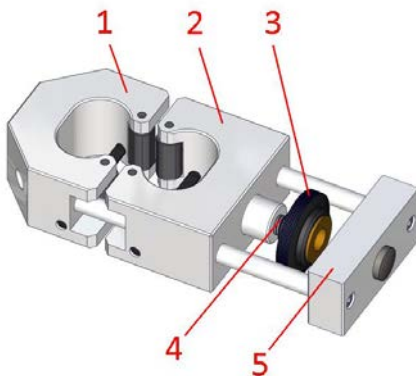
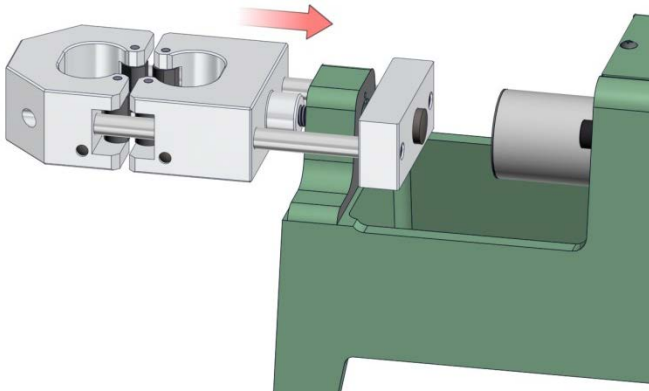
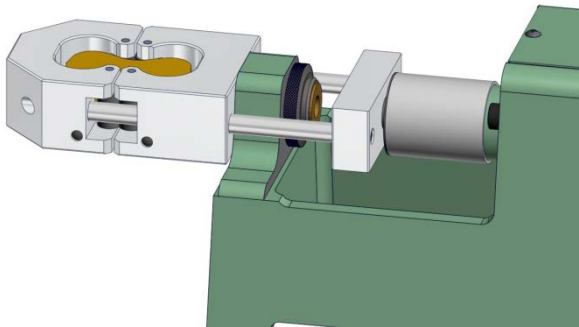

Figure 5.5.1
Figure 5.5.2
Figure 5.5.4
1. Remove the large Knurled Knob (Item 3, Figure 5.5.1) from the large set screw (Item 4, Figure 5.5.1) of the Cold Tensile Strength Accessory.
2. Gently slide the boss and set screw at the rear of the Right Tooling Jaw (Item 2, Figure 5.5.1) through the hole in the Base of the Universal Strength Machine. (See Figure 5.5.2).
2. With the Left and Right Tooling Clamps (Items 1 and 2, Figure 5.5.1) pressed together, insert a standard dog bone tensile sand specimen between the tooling pieces. (See Figure 5.5.4).